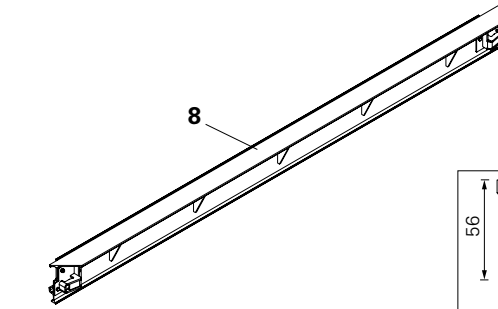

Fig. A2.09
Infill areas can be closed with the filler beam ADF (8) and cut to suit plywood. (Fig. A2.09)